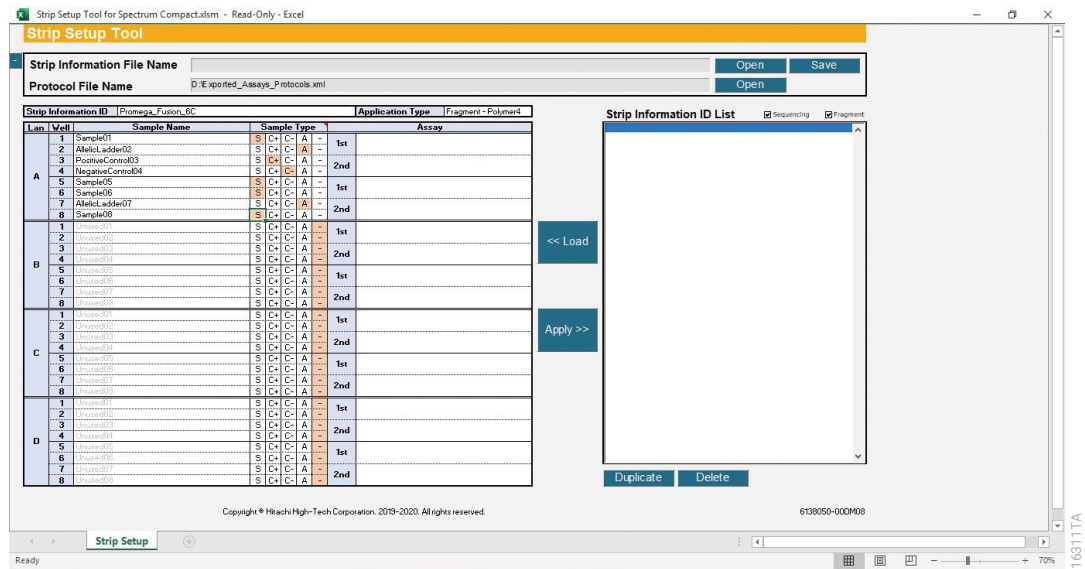

Figure 210. Strip Setup Tool for Spectrum Compact with Sample Type selected.
1. Select the cell immediately to the right of the Strip Information ID cell and enter the new Strip Information ID (Figure 210).
3. For each lane (i.e., strip), select a Sample Type for each well that will contain a sample by selecting that cell (Figure 210).